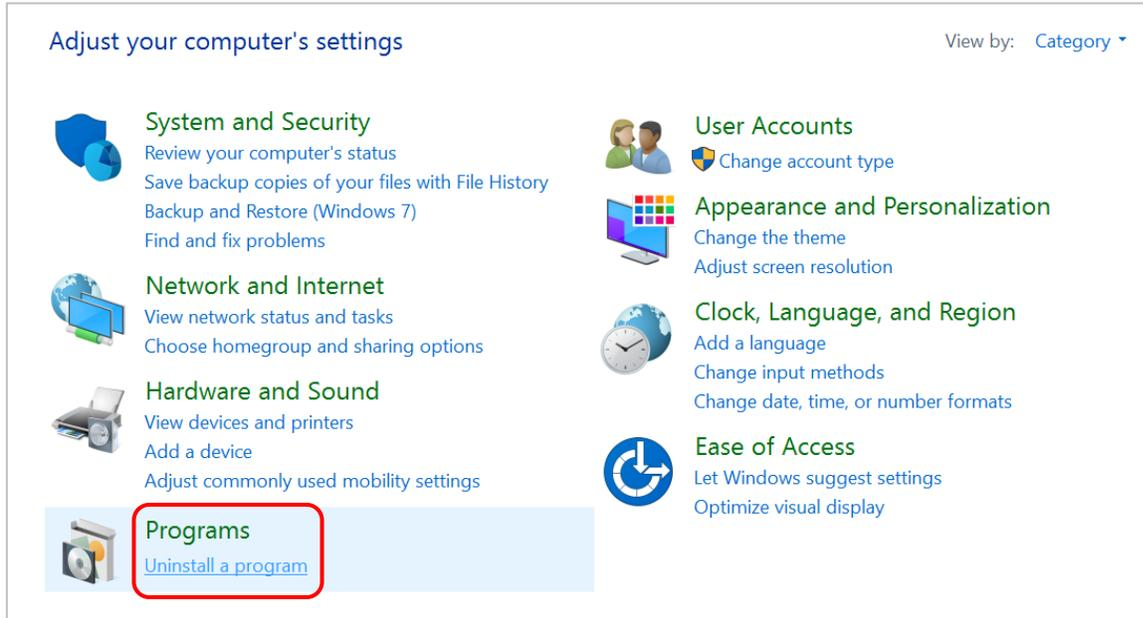

Figure 8-1: Select Uninstall a Program
2. Select the **Uninstall a program** option as Figure 8-1 shows.